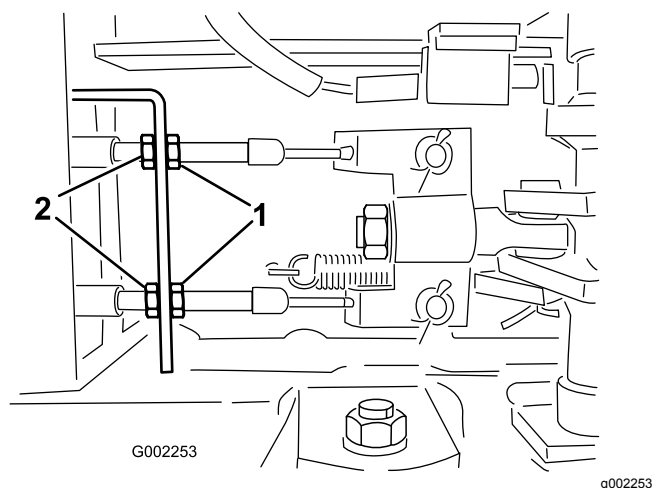

Figure 87
- Loosen the front nuts on the brake cables under the front end of the sprayer (Figure 87).
- Tighten the rear nuts equally until the brake pedal moves between 1 to 2 cm (1/2 to 1 inch) before you feel resistance (Figure 87).